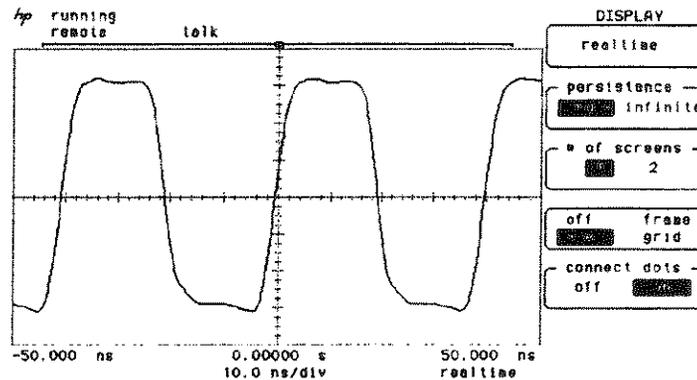

Figure 9-7. Maximum Vertical Signal Setup
- Select the CHANNEL MENU and set volts per division for a full-scale, but not clipped, display. Use the vernier of the pulse generator, if necessary, to set the signal to full scale as in figure 9-7.